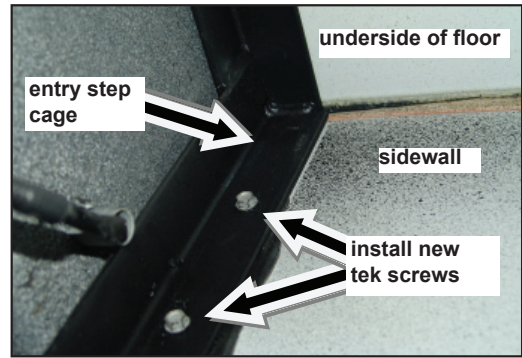

Figure 3
6. Referring to Figure 3, install two new tek screws through the vertical section of the step cage's angle steel and into the back side of the sidewall. Ensure screws do not pierce through to the front of the sidewall.